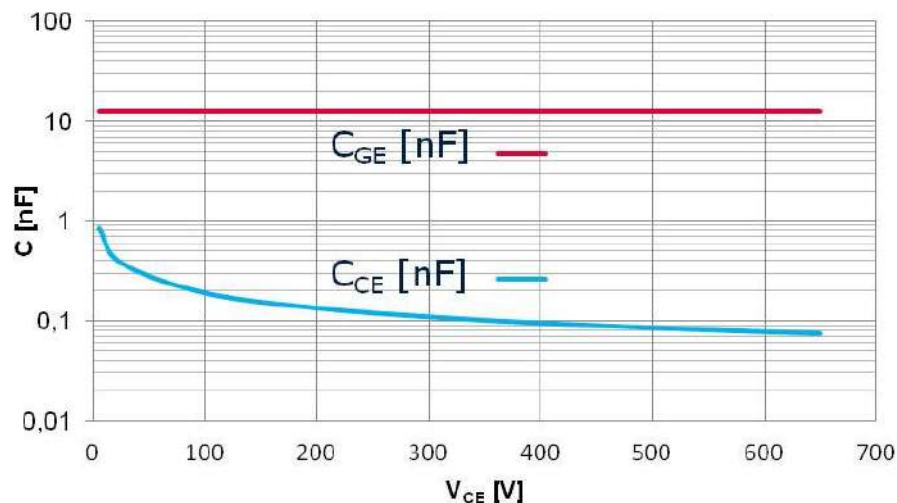

Figure 21: Approximation of C_{GE} and C_{CE} as function of the collector-emitter voltage according to equations (8) and (9)
The parasitic capacitances are determined under the conditions given in Figure 20. The gate-emitter capacitance C_{GE} as shown in Figure 21 can be approximated to be constant over the collector-emitter voltage as shown in equation (8).